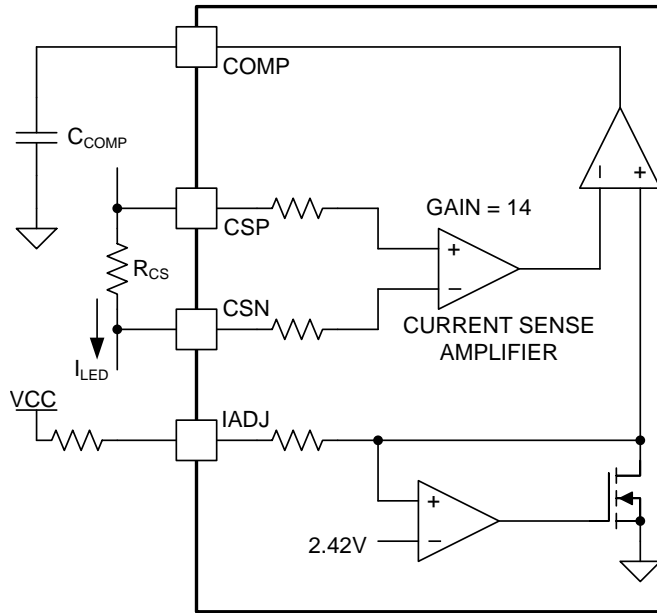
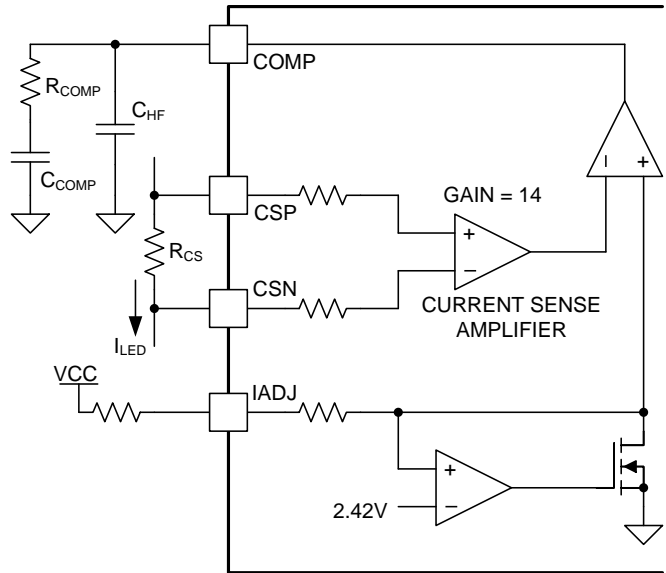

Figure 41. Integral Compensator
Figure 42. Proportional Integral Compensator
The feedback transfer function includes the current sense resistor and the loop compensation of the transconductance amplifier. A compensation network at the output of the error amplifier is used to configure loop gain and phase characteristics. A simple capacitor, C_{COMP} , from COMP to GND (as shown in Figure 41) provides integral compensation and creates a pole at the origin. Alternatively, a network of R_{COMP} , C_{COMP} , and C_{HF} , shown in Figure 42, can be used to implement proportional and integral (PI) compensation to create a pole at the origin, a low-frequency zero, and a high-frequency pole.